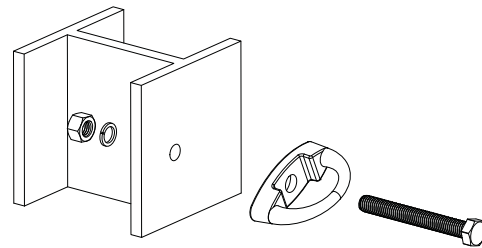

Figure 22
3. Mount the D-Bolt Anchor by passing the approved 5/8" stainless steel bolt through the hole in the connector and through the hole in the structure (see Figure 22). Attach the lockwasher and nut. Completely tighten making sure the entire nut is engaged on the threads and the device is securely fastened to the structure. Torque to 125 ft. lbs.